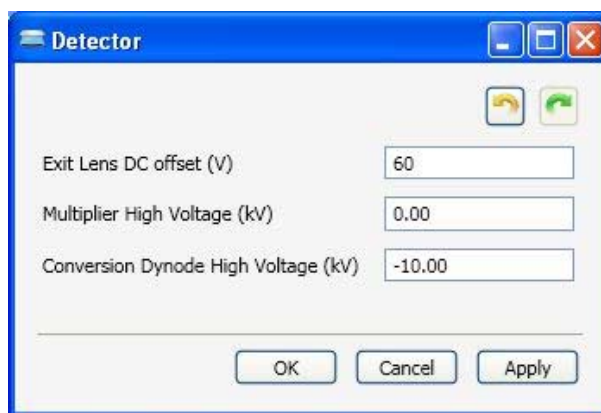

Figure 7.7. Initial Detector settings.
4. Click  Set Conversion Dynode to -10kV (positive mode) or +10kV (in negative mode). Set Multiplier to zero volts (see Figure 7.7).